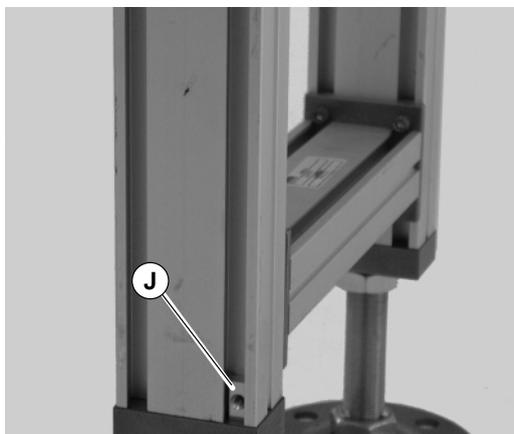

Figure 9
1. Install T-bar (J of Figure 9) into stand leg T-slot.